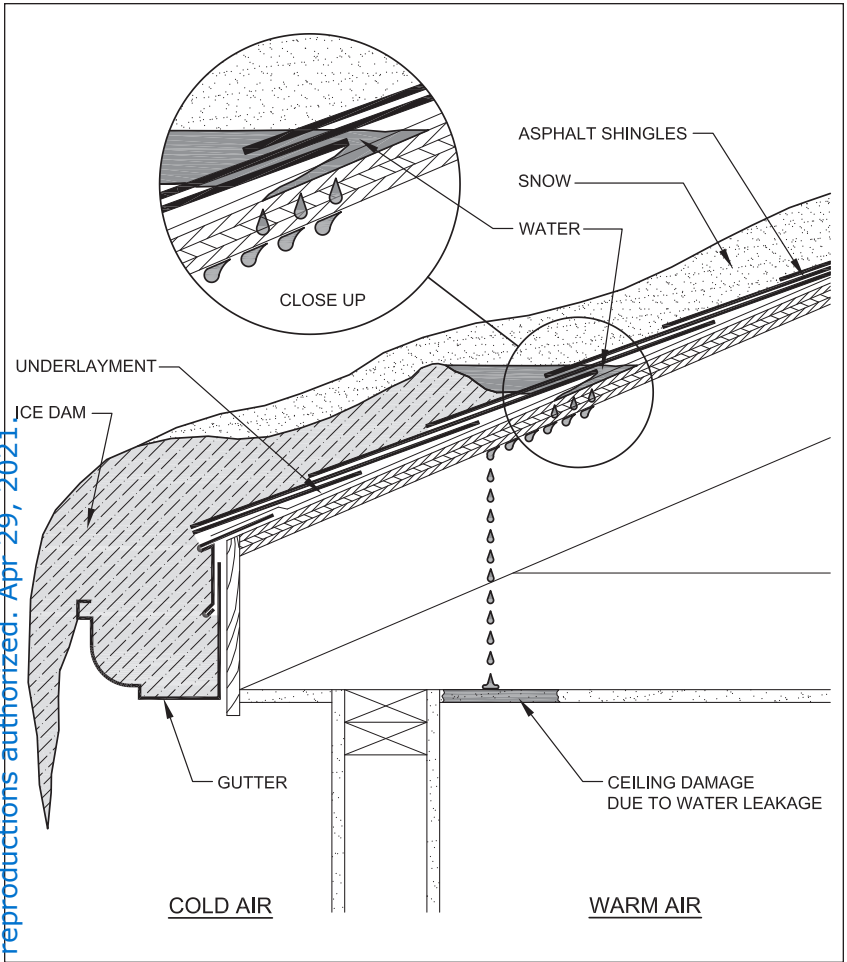
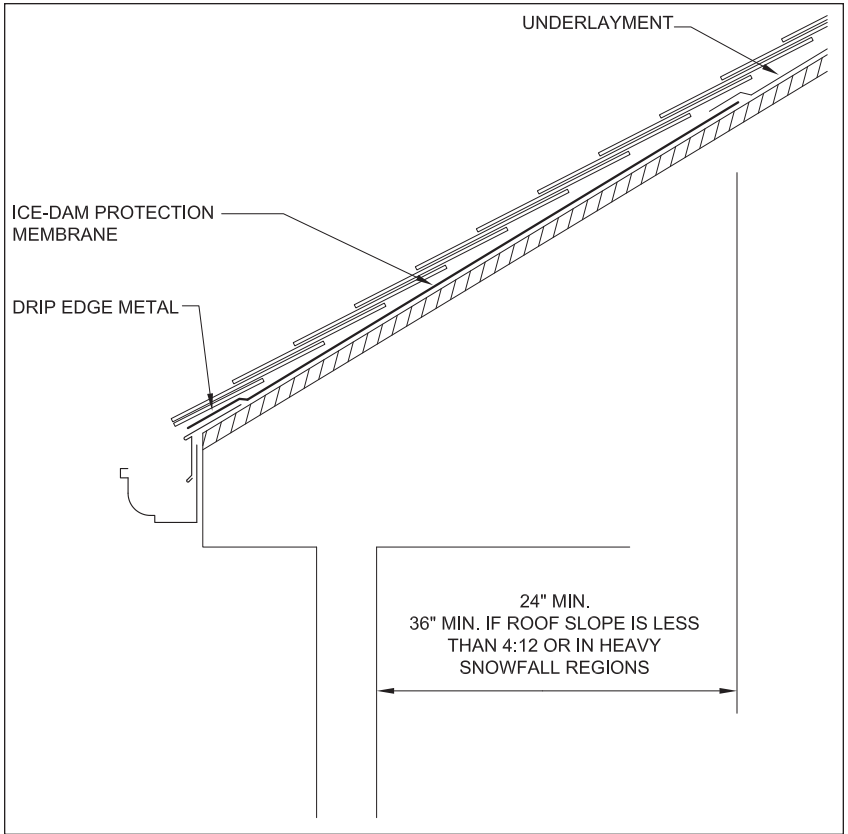

Figure 6: Example of an ice dam
Figure 7: Ice-dam protection membrane installed at an eave
- **Ice-dam protection**—Self-adhering polymer-modified bitumen sheets installed at eaves often is required by building codes or recommended in climate zones where snow and ice dams are likely to occur. See Figure 6 (on page 18) and Figure 7 (on page 19). Ice-dam protection does not prevent ice dams; it protects interior space from water intrusion caused by ice dams. An ice-dam protection membrane also is recommended in valleys; at sidewalls and headwalls; and around pipes, chimneys, vents and skylights.